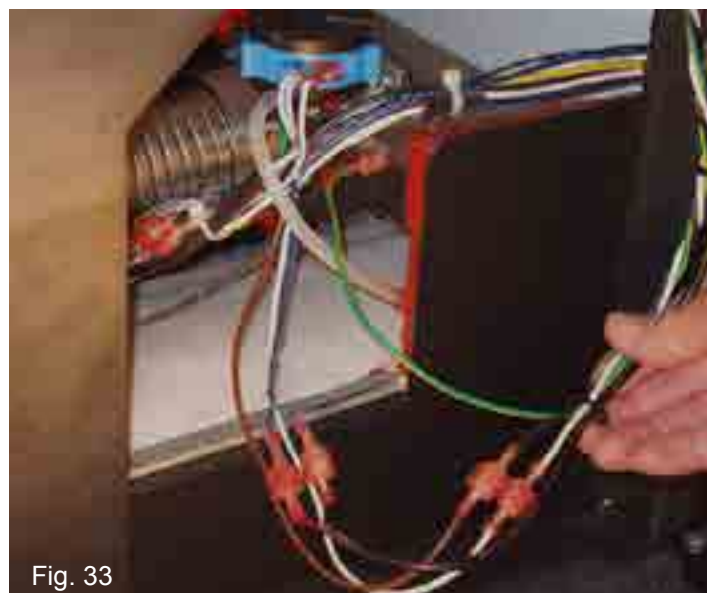

Fig. 33
17. Complete the following electrical connections (CAUTION: Disconnect the power cord.) There are 5 connections that must be completed. See Fig. 33 & 34.